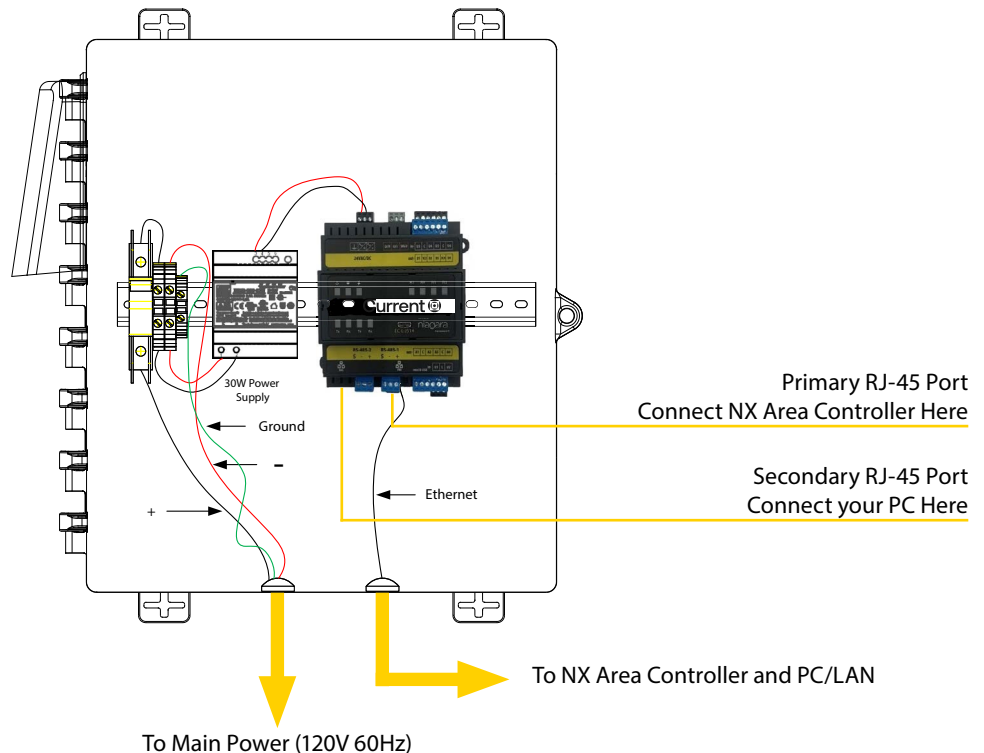

Figure 3: Key Access Points
8. Connect one end of your CAT5e Ethernet cable to the RJ-45 port and the other end to the Ethernet port on the NX Area Controller. See Figure 3 & 4.
9. Use the second Ethernet port on the NX Energy Module module to connect your PC. See Figure 3 & 4.
10. Route the Ethernet and power cables through the provided knock-outs as shown in Figure 3.